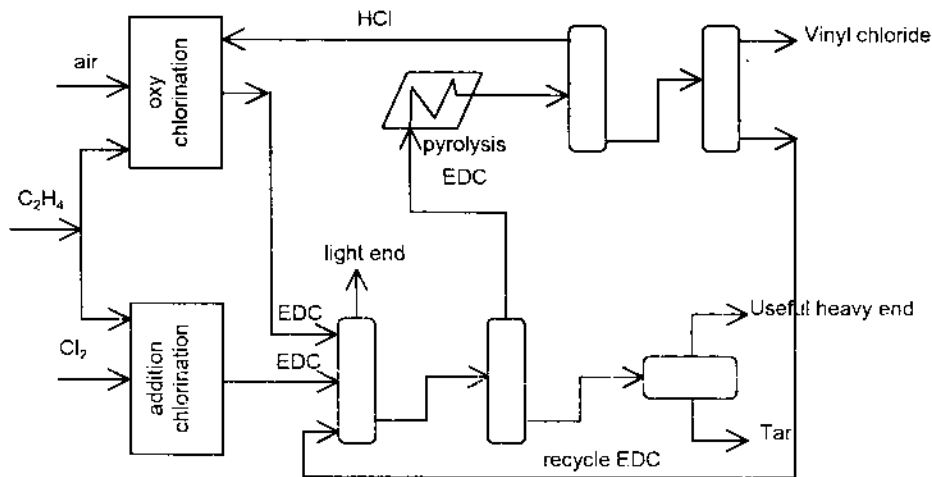

Fig.1 Industrial process for the manufacture of vinyl chloride by combined chlorination and oxychlorination.
Since chlorine is rather *expensive*, all three steps, chlorination, oxychlorination and dehydrochlorination, are integrated in one process and balanced in such a way that no chlorine is lost. The principle set-up is illustrated in figure 1.
1. Use the flow diagram in fig. 1, write a description of the production of VC.